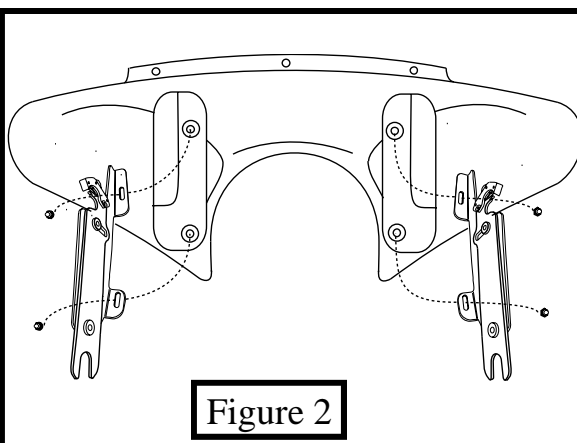

Figure 2
4. Attach the fairing mounting plates to the bolts on the fairing with the washers and acorn nuts provided. The Mounting tabs should be pointing in towards the headlight when installed correctly. (See Figure 2)